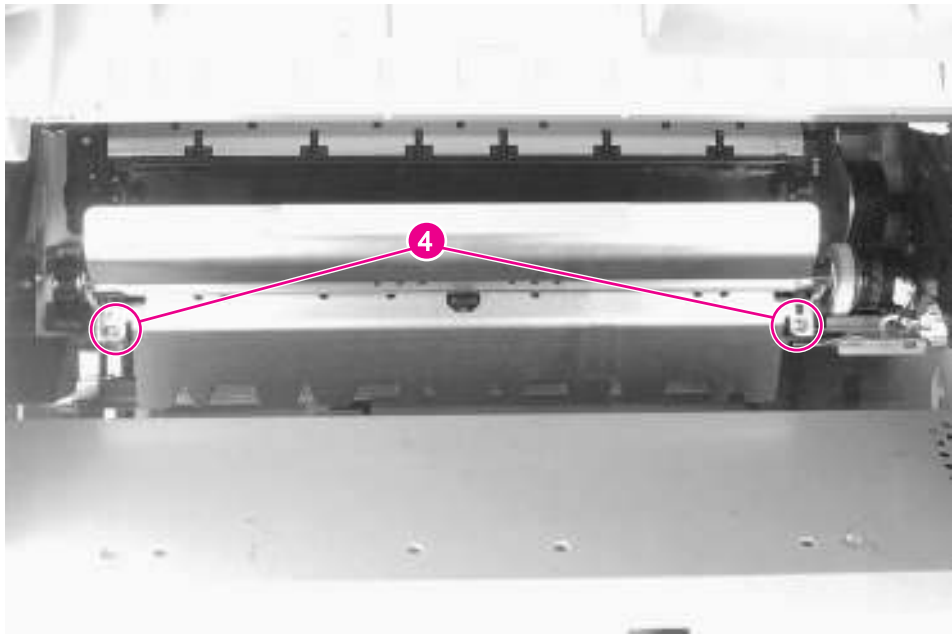

Figure 6-53 **Registration Assembly (3 of 3)**
- 6 Lift the registration guide and remove 2 screws at the front of the assembly (figure 6-53, callout 4).